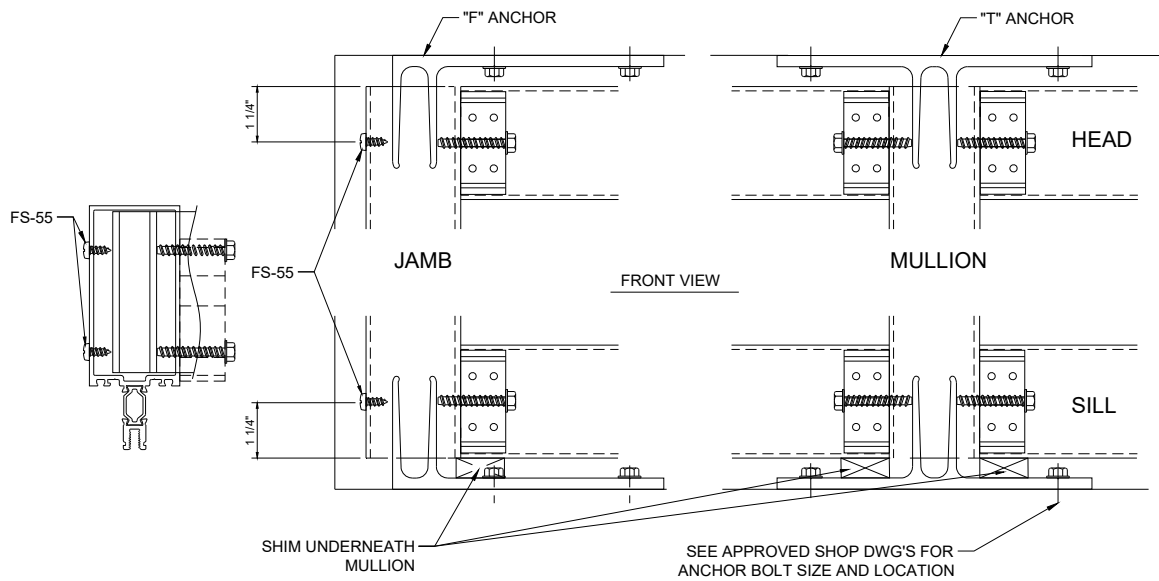

Figure 36: "F" & "T" Anchors
- 11.1 If using "F" or "T" anchors, slide anchors into top and bottom of Verticals. The anchors are designed to clear the shear block fasteners. See *Figure 36*.
- 12.1 When using "F" or "T" anchors, slide anchors into top and bottom of Verticals. The anchors are designed to clear the shear block fasteners. See *Figure 36*.
- 13.1 Install "F" or "T" anchors at the sill condition prior to setting mullions, see Figure 36. Each anchor must be anchored with a minimum of two anchor bolts. See approved shop drawings for bolt size and location.
- 13.7 Slide "F" or "T" anchors into top of upper-most mullions prior to erecting. The "F" or "T" anchors are designed to clear the shear block fasteners. See Figure 36. Attach "F" or "T" anchor to building condition.